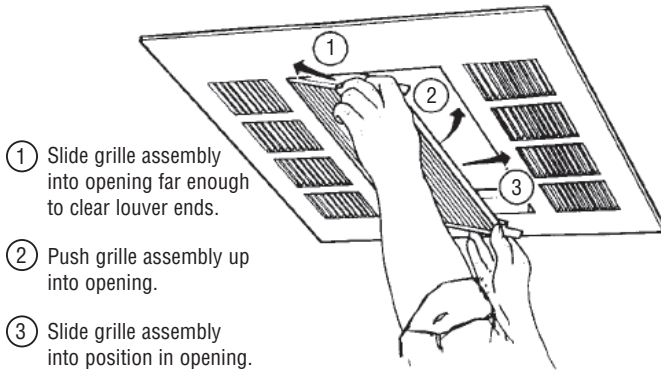

Figure 10
4. While holding the assembly together with both hands, fit one side of assembly into the opening of the enclosure, and slide this side inward while fitting the opposite side into the enclosure. (See Figure 10.) Slide the assembly into position so that the bottom portion of each guide locks into the opening.